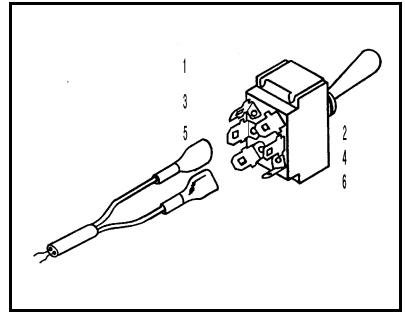

Fig. 28 - Double Pole Switch
2. **Connect the existing wires to terminals 2 and 4.** With the switch in the up (OFF) position these contacts are open, thus breaking the circuit (fig. 28).
3. **Connect the cut-out lead to terminals 3 and 5.** With the switch in the up (OFF) position these contacts are closed, thus interrupting the instrument recording (fig. 28).